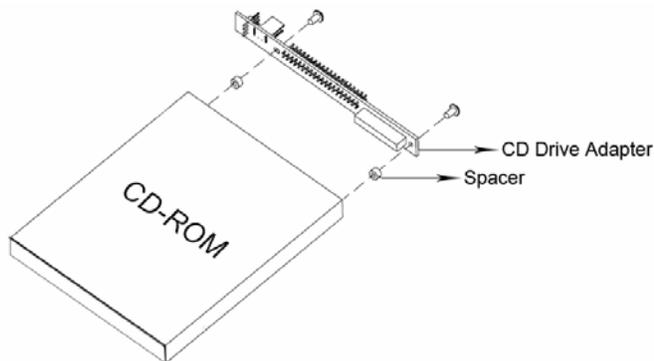

Figure 4-12: CD Drive Adapter Installation
- Step 1:** Attach the CD drive adapter to the CD drive by aligning the two retention screw holes in the CD drive adapter with the retention screw holes on the rear side of the CD drive. Place the two spacers between the CD drive and CD drive adapter. Insert two retention screws into the adapter (**Figure 4-12**).